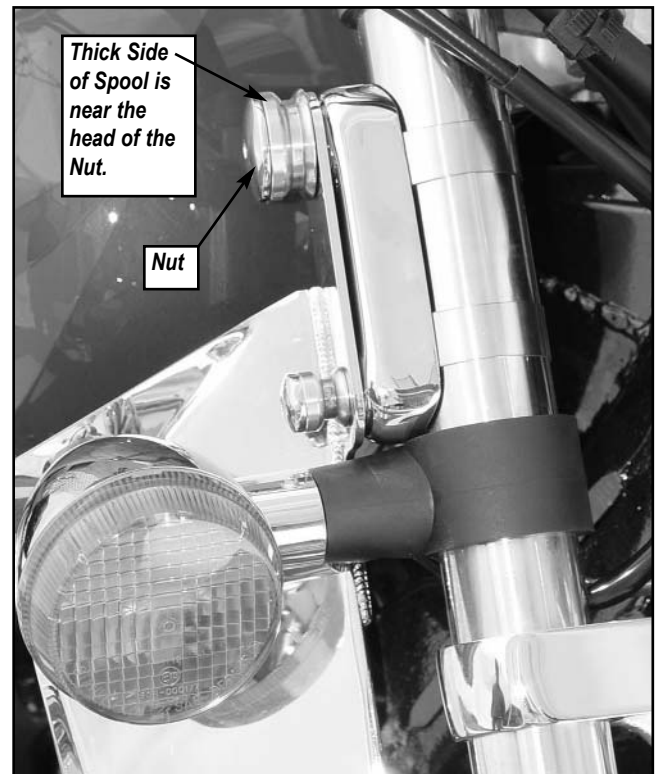

Figure 3.
2. Push the large Upper Nut into the large Upper Spool so the **thick side** of the spool is near the head of the Upper Nut. **Figure 3.**